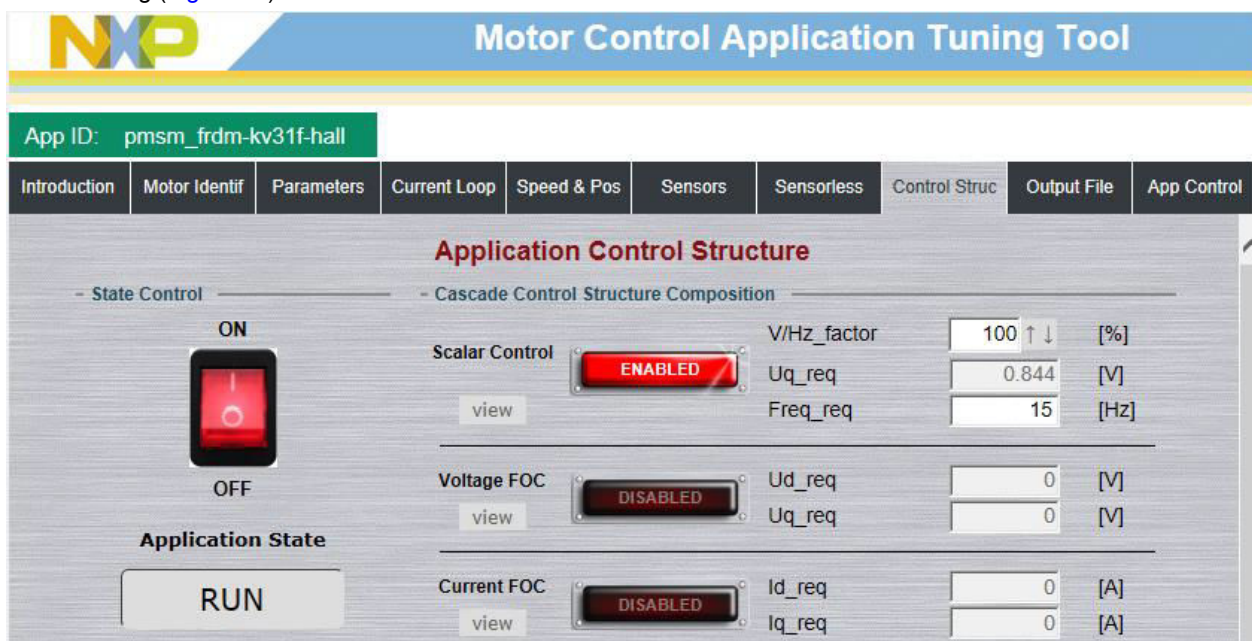

Figure 39. MCAT scalar control
- Set the required frequency value in the “Freq_req” field; for example, 15 Hz in the “Scalar Control” section. The motor starts running (Figure 39).